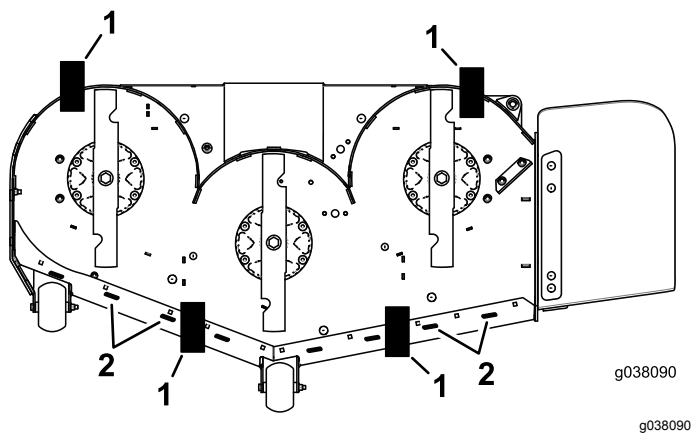

Figure 85
10. Place 2 blocks (see Block Height and Rake Table) under the rear edge of the cutting deck skirt; 1 on each side of the cutting deck (Figure 85).